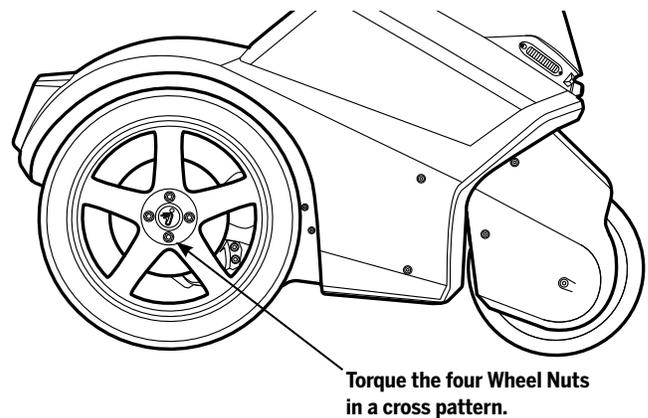

Figure 42: Installing a Rear Wheel
7. Using the wheel nut key, torque the four Wheel Nuts to **67 N-m (49 ft-lbf)**. Torque nuts in a cross pattern: top, bottom, left, right (**Figure 42**).